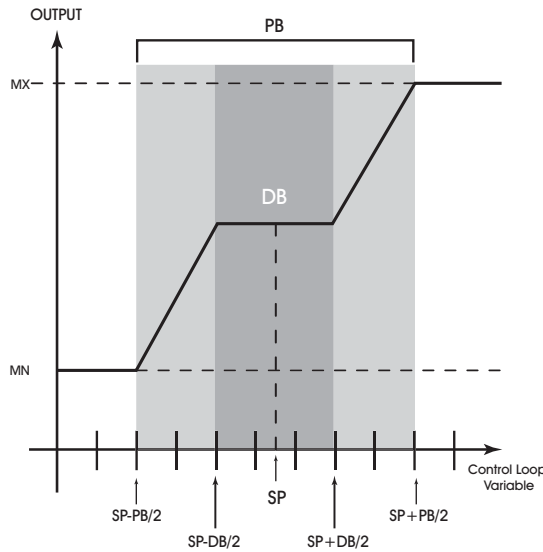
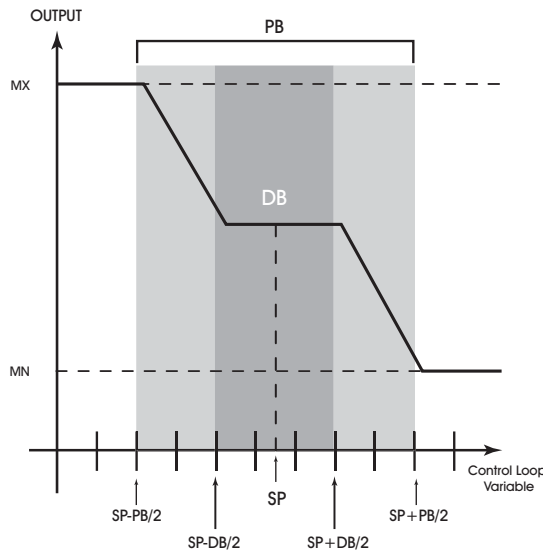

Figure 3-3: Proportional Band For Normal Acting Control ($SG=0$)
Figure 3-4: Proportional Band For Reverse Acting Control ($SG=1$)
setpoint. This control range can be expressed as a band centered on the setpoint: from 70° to 74° , or four degrees, the *proportional band (PB)*. Refer to Figure 3-3 and Figure 3-4.
The **(SG) Control Action** property refers to the control sign of the floating point control loop. The control sign is used to determine whether the control loop is *normal acting* or *reverse acting*. A normal acting control loop causes an increase in output position when the value of the input variable *increases* (see Figure 3-3). A reverse acting control loop causes an increase in output position when the value of the input variable *decreases* (see Figure 3-4).